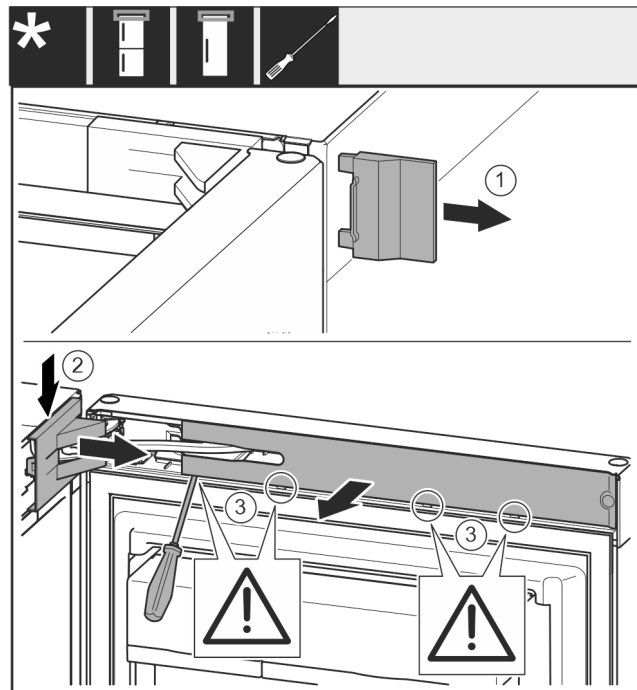

Fig. 9
- Remove cover Fig. 9 (1).
- Disengage and loosen the swap bearing block cover Fig. 9 (2).
- Remove the swap bearing block cover Fig. 9 (2).
- Use a slotted screwdriver to unlatch the trim Fig. 9 (3) and swing it to the side.